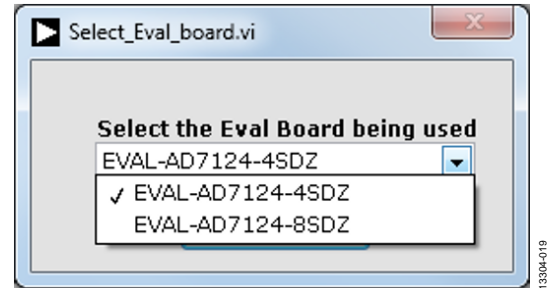
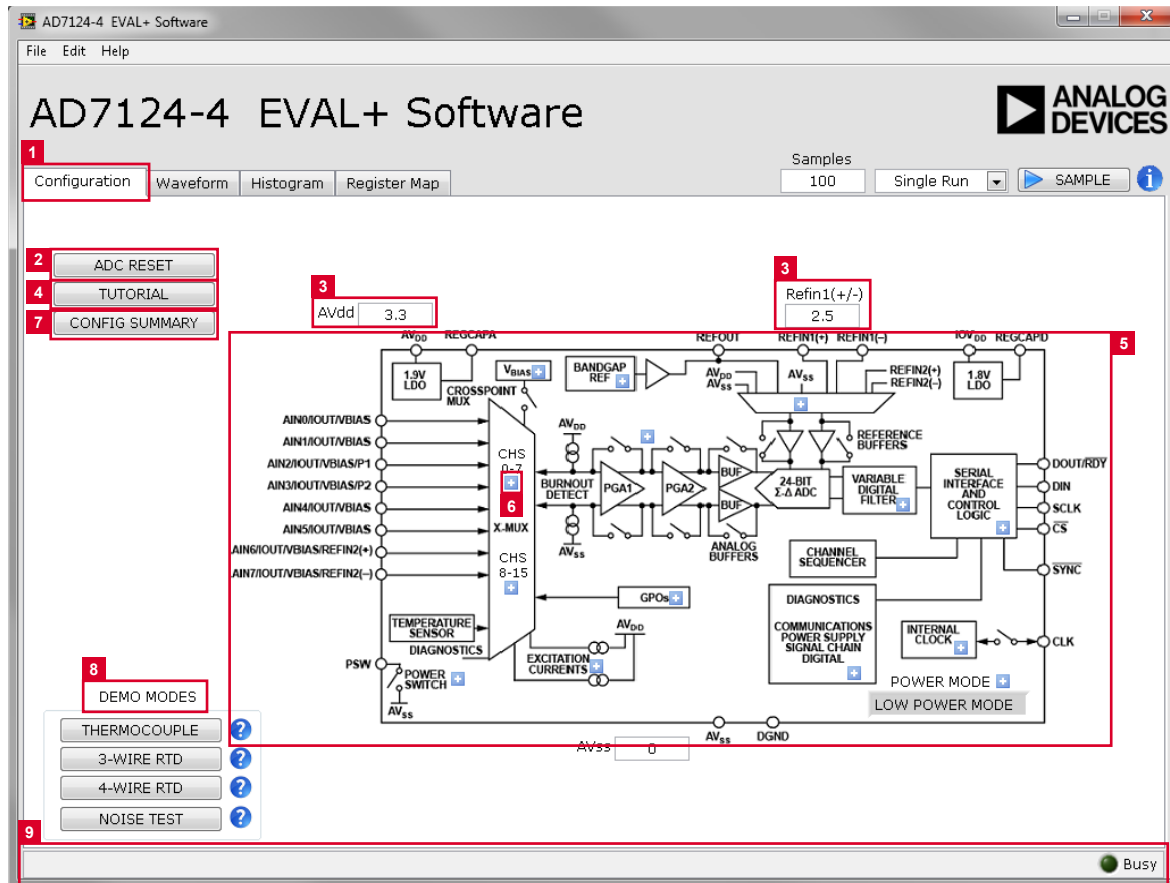

Figure 19. EVAL-AD7124-4SDZ Evaluation Board Selection
Figure 20. Configuration Tab of the AD7124-4 EVAL+ Software
1. From the **Start** menu, click **Programs > Analog Devices > AD7124 Eval+ > AD7124 Eval+**. The dialog box in Figure 19 appears; select **EVAL-AD7124-4SDZ**, and the main window of the software then displays as shown in Figure 20.
When the software starts running, it searches for hardware connected to the PC. A dialog box indicates when the generic SDP attached to the PC is detected, and then the main window appears (see Figure 20). Press the RESET button on the SDP board, as shown in Figure 17.
The evaluation software supports both the AD7124-4 and the AD7124-8 devices. On running the software, the user selects the evaluation board that is connected to the PC. For the AD7124-4, select **EVAL-AD7124-4SDZ** from the drop-down list, as shown in Figure 19.
After selecting the EVAL-AD7124-4SDZ evaluation board, the main window of the evaluation software displays, as shown in Figure 20. Figure 20 shows the significant control buttons and analysis indicators of the AD7124-4 EVAL+ Software. The main window of the AD7124-4 EVAL+ Software contains four tabs:
The **Configuration** tab shows a block diagram of the AD7124-4. It allows the user to set up the ADC, reset the ADC, read the diagnostics to see errors present, as well as configure the device for different demo modes. Figure 20 shows the **Configuration** tab in more detail, and the following sections discuss the different elements on the **Configuration** tab of the software window.